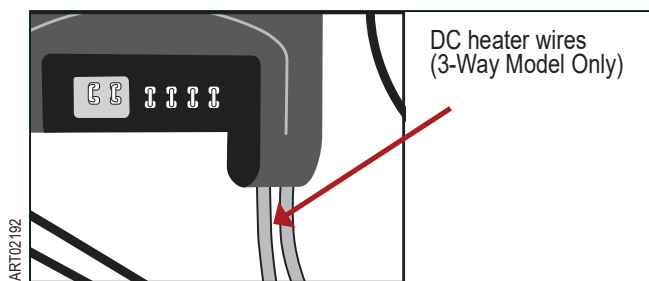

Fig. 10 Route the DC heater wires to the right side on 3-way models
**NOTE:** If you are servicing a 3-way model, route the DC heater wires out the right side of the cover. See Fig. 10.